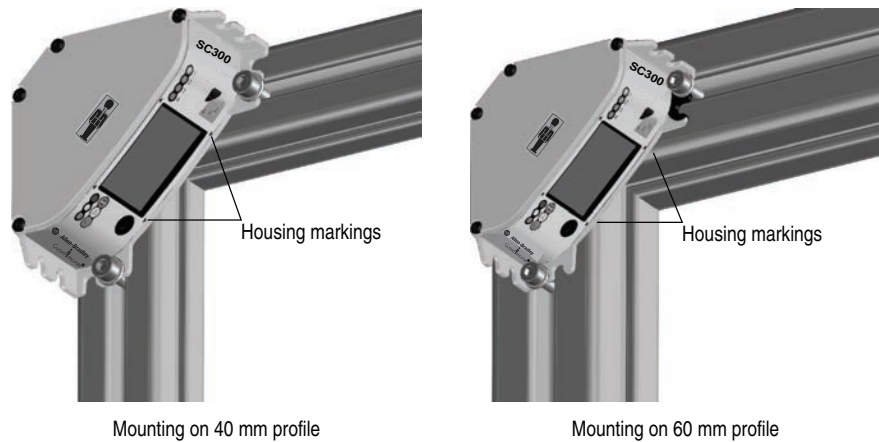

Figure 13 - Example: mounting with sliding nuts on different thickness profiles
- Always use washers under the screws (Figure 13)